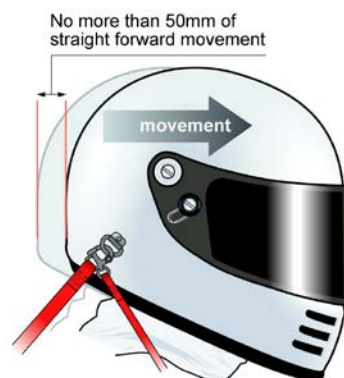

Figure 4 Movement to define the tethers adjustment
- It is recommended to fit the tethers so that they will allow the wearer forward head movement in the range of 25mm to 50mm, from the wearer's Static or Starting position in the car as indicated in Figure 4. The static position is the position that the wearer is in while driving the race vehicle. The helmet should not be up against the rear headrest, but rather be in the normal driving position. (The chin should be up while doing this maneuver. It is a straight forward motion.)